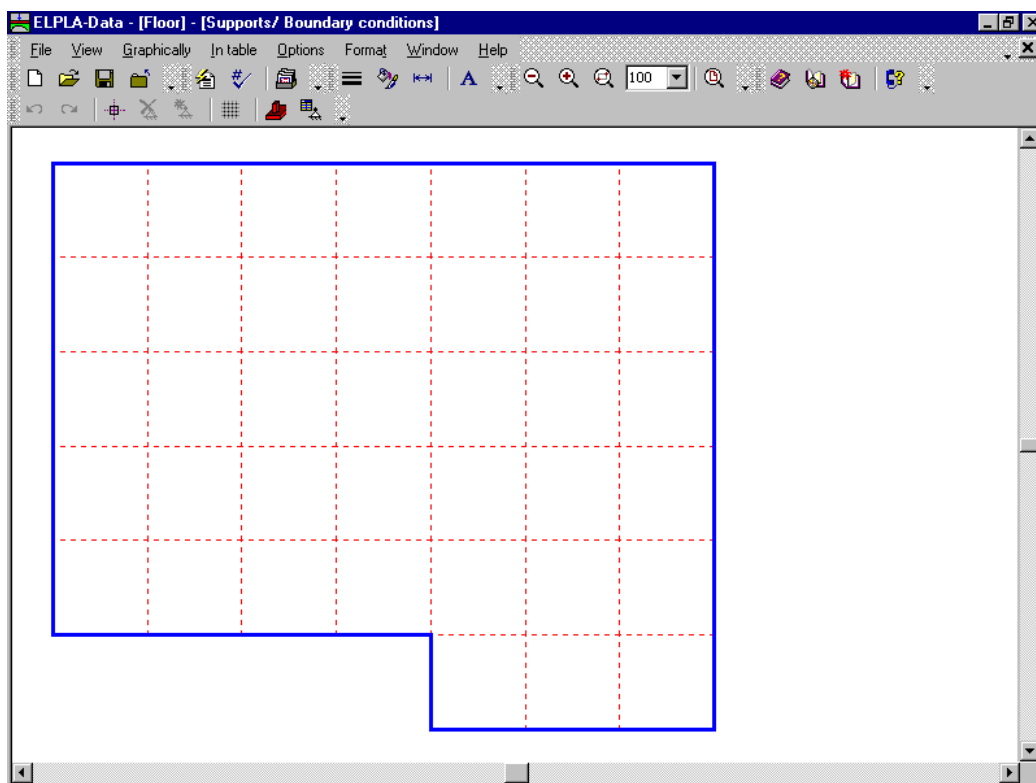
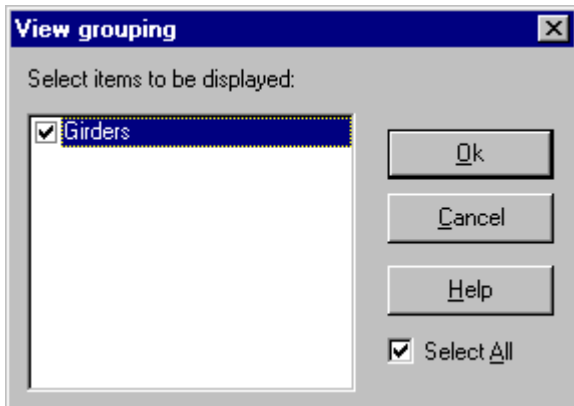

Figure 2-21 "Supports/ Boundary conditions" embedded program
Figure 2-22 "View grouping" check group box
In general, columns under the slab are considered as rigid supports. These supports are defined by the "Supports/ Boundary conditions" command. To define supports choose "Supports/ Boundary conditions" command from "Data" menu of *ELPLA-Data*. The following embedded program in Figure 2-21 appears.
- Choose "View grouping" command from "Option" Menu in Figure 2-21. The "View grouping" check group box in Figure 2-22 appears